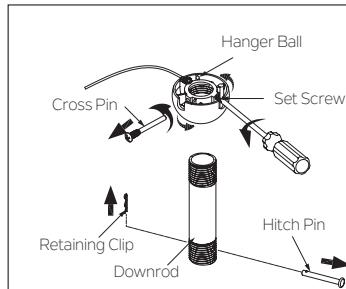

Fig. 6
Step 2. Remove the retaining clip and hitch pin from the downrod assembly. Remove the hanger ball from the downrod assembly by loosening the set screw on the hanger ball (do not remove), unscrewing and removing the cross pin, and unscrewing the hanger ball (counterclockwise) from the downrod. (**Fig. 6**)